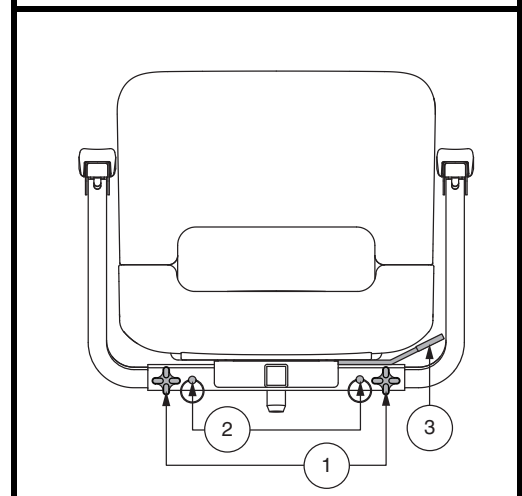

Figure 15. Seat Adjustments – Style A
1. Loosen the armrest adjustment knobs. See figure 15.
1. Depending on your seat type, either pull upward or push forward on the seat rotation lever to disengage the seat. See figure 15 or 16.